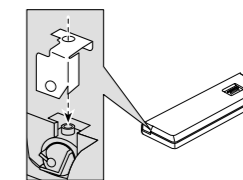

Fig. 10
1. Attach the holder to the front panel. (Fig. 10)